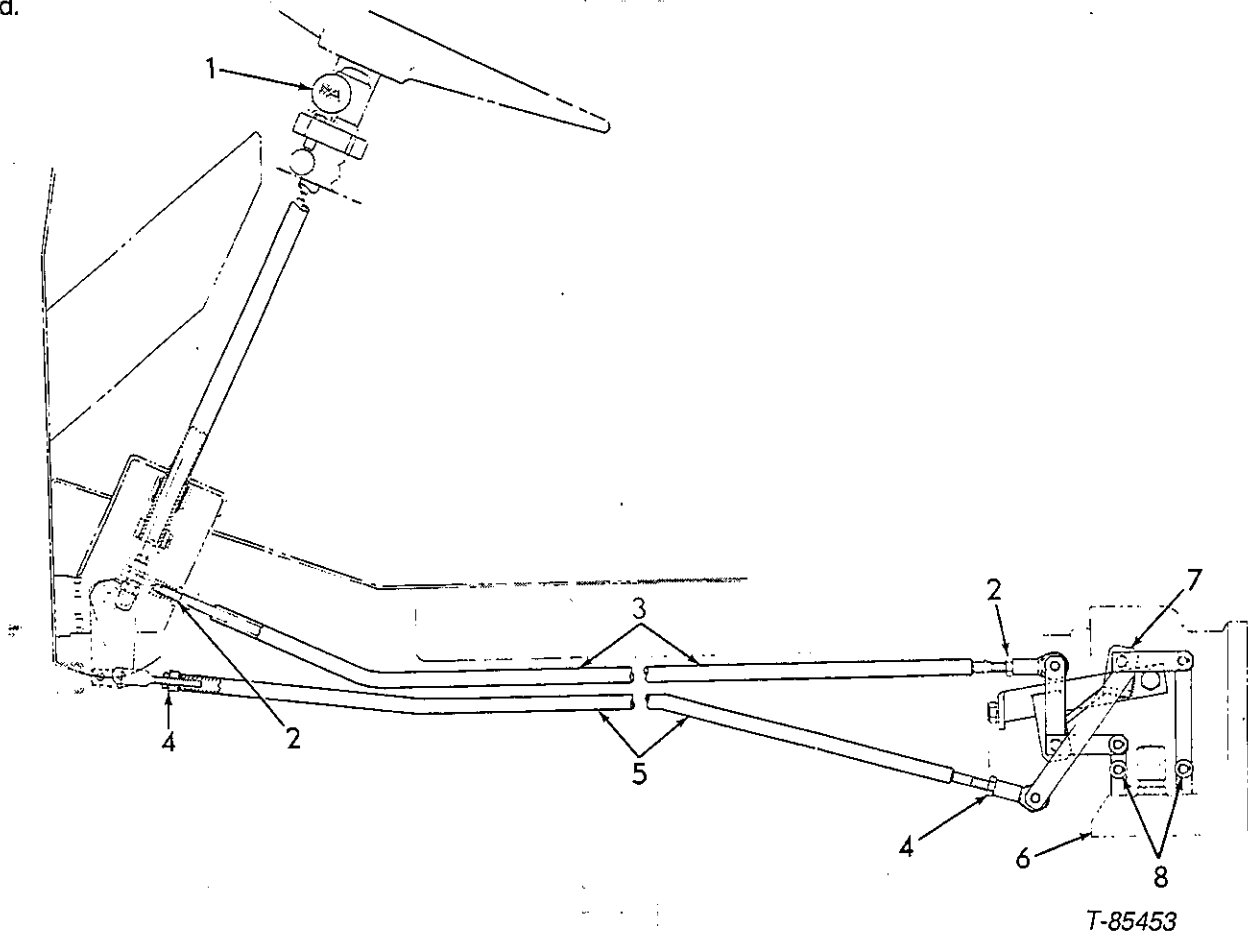

FIG. 2-4 TRANSMISSION SHIFT LINKAGE
1. Put shift lever(1), Fig. 2-4, in the neutral position, set the parking brake and make certain the transmission control valve plunger is in the neutral position.
2. Loosen the locknuts(2) on rod(3) and adjust to the desired position. After the desired position is obtained, tighten the locknuts on both ends of the rod.
4. Loosen the locknuts(4) on the rod(5) and adjust to the desired position. After the desired position is obtained, tighten the locknuts on both ends of the rod.